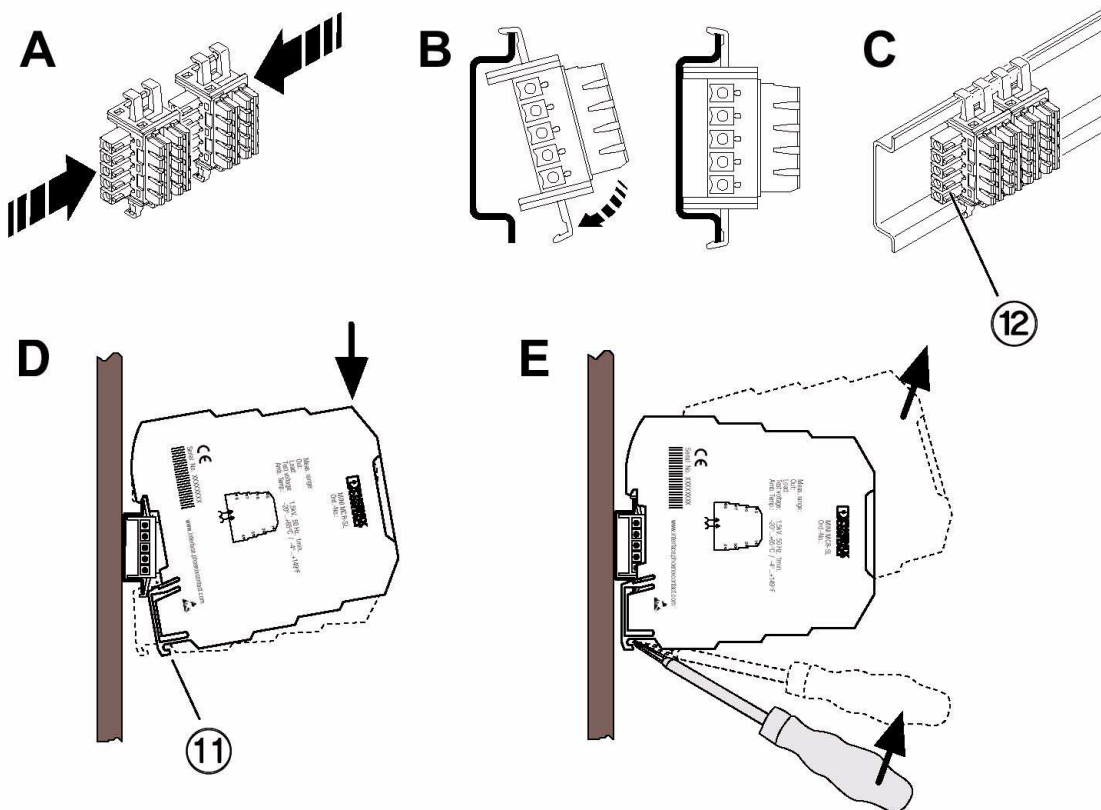

Figure 5 Mounting/Removing
Snap-on foot (Figure 5, detail D 11)
below and **plug** (Figure 5, detail C 12)
- First position the DIN rail connector in the DIN rail to bridge the voltage supply (see Figure 5).